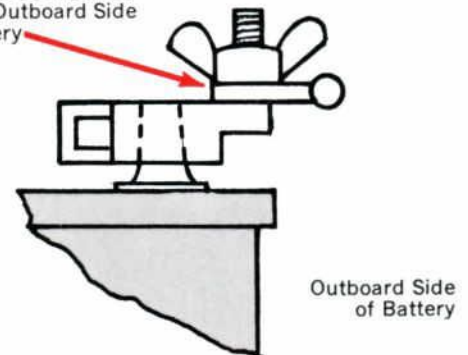

Figure 3—Adaptor Clamp Assembly (Autolite Part No. 5433)
3. Wing nut adaptor terminal clamps, that are currently released by the Autolite-Ford Parts Division are required. They must be positioned with the vertical stud at the outboard side of the battery. Existing holes in the terminal end of the battery cables must be enlarged to fit the terminal adaptor clamps. See figure 3.